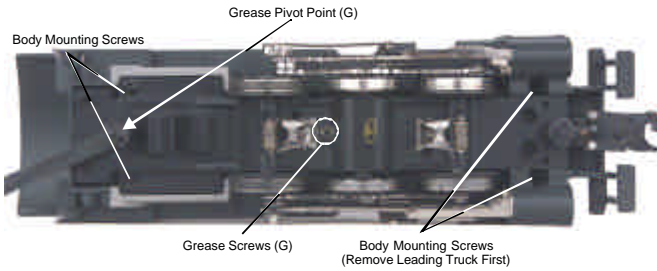
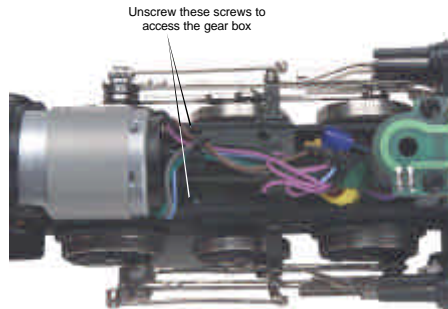
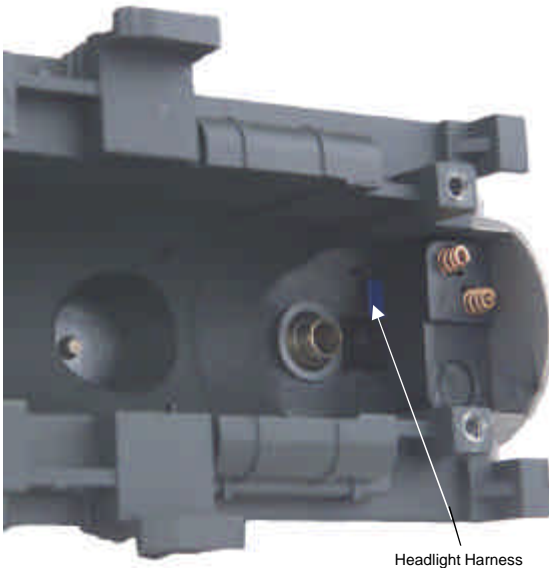

Figure 6: Removing The Body And Lubricating The Grease Points
Figure 7: Motor Gearing Grease Plate Screws
Figure 8
2. Remove the boiler by removing the body mounting screws shown in Fig. 6
3. Remove the Phillips screw (marked “GREASE”) located at each set of wheels (Fig. 6) and the gearbox cover screws (Fig. 7).
You should also grease the leading and trailing locomotive truck tongues to enhance their ability to slide on the chassis. Follow the grease points shown on Fig. 6.
1. To replace the headlight in this model you will need to follow the disassembly instructions for greasing the engine in figure 6 on pg. 13. Once the boiler has been removed you can access the headlight (see figure 8).
heating element. To remove the smoke unit you will first have to remove the boiler shell (by removing the body mounting screws shown in Fig. 6 on pg. 13).